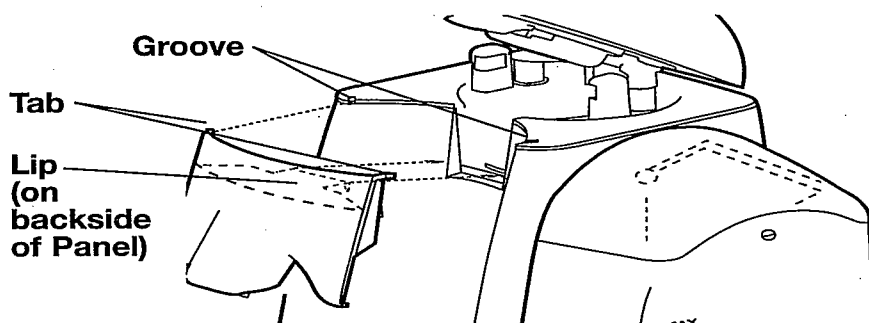

FIGURE 17
1. Proper reassembly of the Removable Front Panel is crucial to the working of your Pod Coffeemaker. Grasping the Removable Front Panel, insert the back lip of the Front Panel up and over the front of the Coffeemaker, aligning the tabs of the Front Panel with the 2 grooves on the front of the machine. Pressing firmly, insert the tabs into the grooves until the Front Panel is locked in place. See Figure 17.